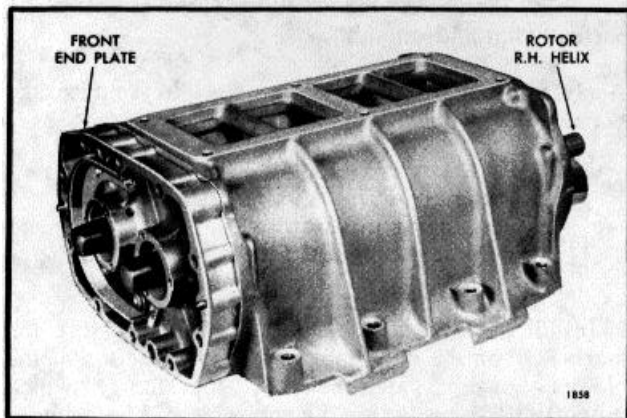

Fig. 11 - Assembling Blower Rotors into Housing and Front End Plate (Lip Type Oil Seals) using Tool J 6270-5.
- b. Insert the blower rotors with oil seal pilots straight into the blower housing with the right-hand helix rotor at the top, flange, side of the housing. Then, push the rotor shafts and oil seal pilots on through the oil seal in the front end plate as shown in Fig. 11.